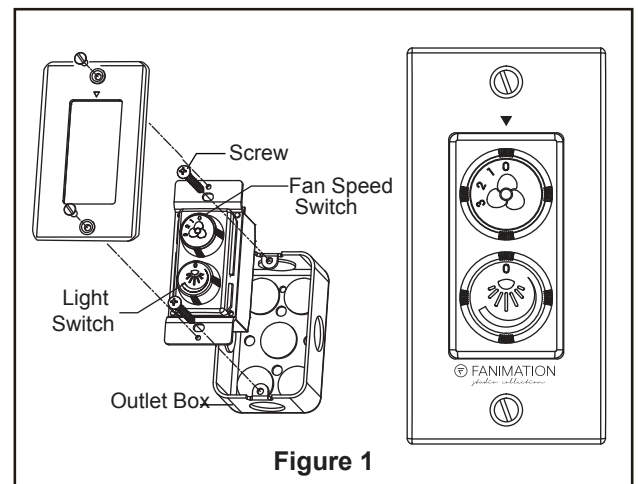

Figure 1
1. Carefully push all connected wires inside wall switch box. Secure the wall-mounted control to the outlet box with two screws provided. Then, the face plate attaches to the wall control with two painted screws. (Figure 1)